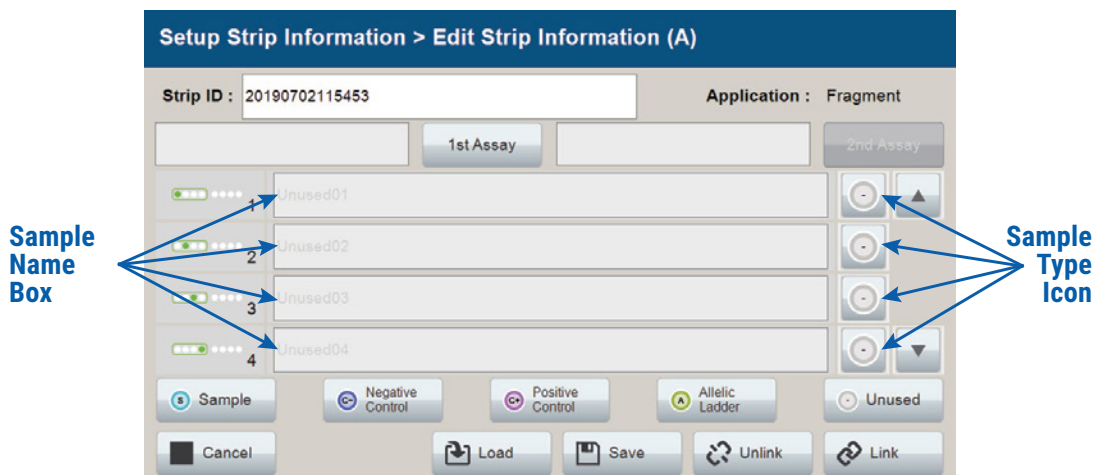

Figure 11. 'Edit Strip Information' screen.
2. Select a lane icon (A, B, C, or D) to enter information for that 8-well strip tube. This opens the 'Edit Strip Information' screen for that lane (Figure 11). This screen displays fields for defining the Strip ID, run assay, sample name and sample type for that lane. Each well in the strip is represented along the left side of the screen. The first injection set of the strip (Wells 1–4) is displayed on the screen. You can use the arrows on the right side of the screen to scroll to the second injection set (Wells 5–8).